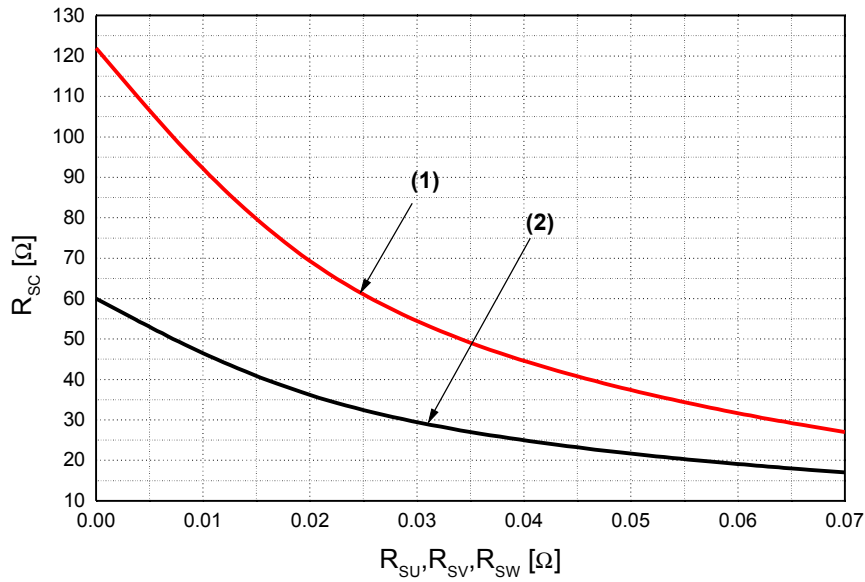

Fig. 7. R_{SC} Variation by change of Shunt Resistors (R_{SU}, R_{SV}, R_{SW}) for Short-Circuit Protection
- Short-circuit current protection is functioning only at the low-sides. It would be recommended that the value of the external sensing resistor (R_{SC}) should be selected around 60 Ω in order to make the SC trip-level of about 30A at the shunt resistors (R_{SU}, R_{SV}, R_{SW}) of 0Ω. For the detailed information about the relationship between the external sensing resistor (R_{SC}) and the shunt resistors (R_{SU}, R_{SV}, R_{SW}), please see Fig. 7.